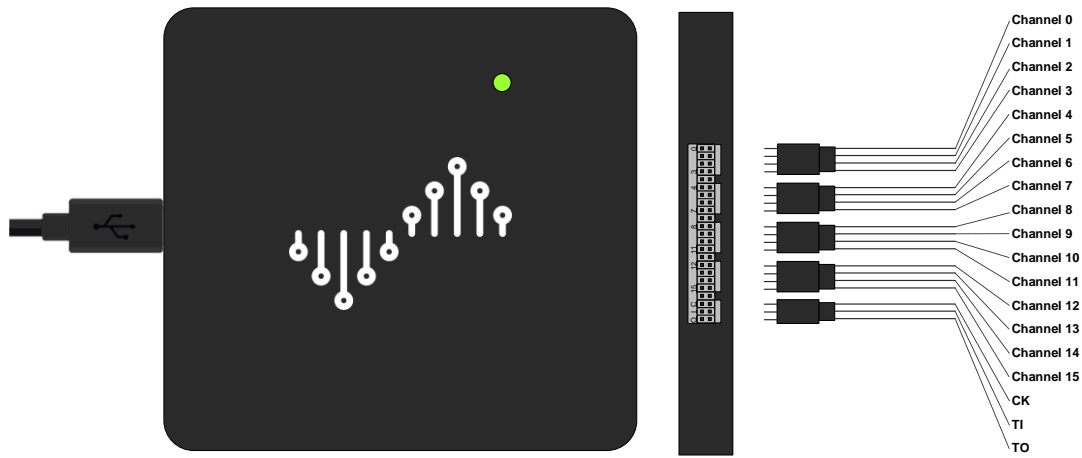

Figure 2-3
- 3) Connect the shielded fly wires to the external port of logic analyzer. Figure 2-3 shows the wire mapping of DSLogic Plus kit. Except for 16 signal channels, the 'CK' channel is the clock input for state capture, 'TI' channel is the external trigger input, 'TO' channel is the external trigger output.